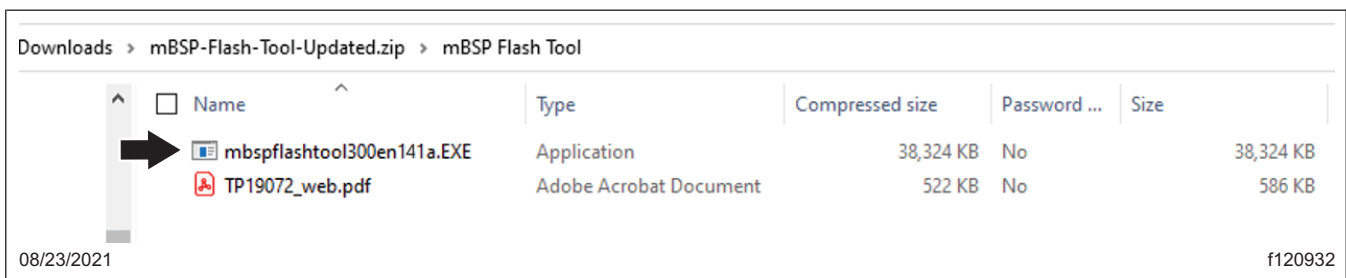
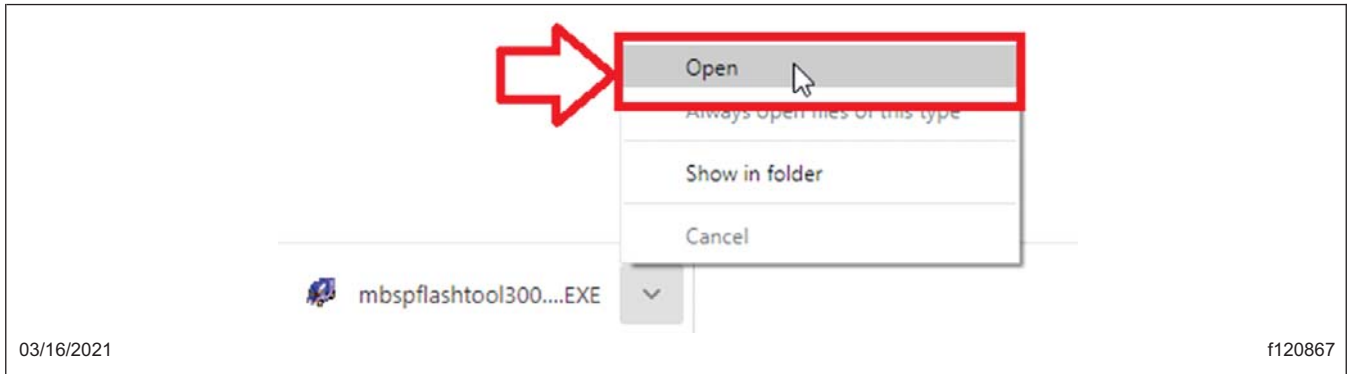

Fig. 7, mbpsflashtool300en141a.EXE File in mBSP Flash Tool Folder
Fig. 8, Opening the mBSP Executable File
7.1 In the extracted folder 'mBSP Flash Tool,' double-click on the 'mbpsflashtool300en141a.EXE' file. See Fig. 7 and Fig. 8.